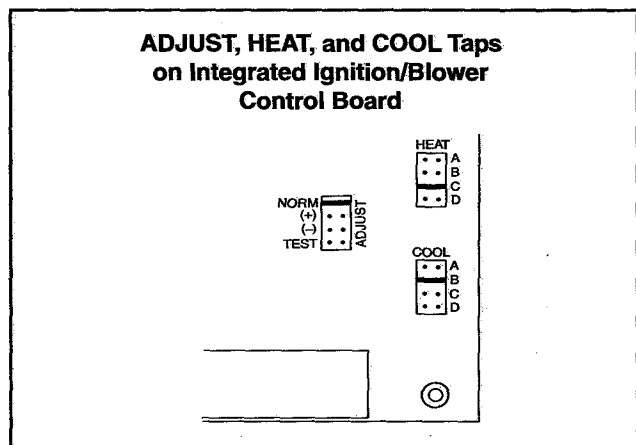

Figure 37
Refer to Figure 37 for field wiring and Figure 38 for schematic wiring diagram and troubleshooting.
7. One line voltage "EAC" 1/4" spade terminal is provided on the furnace integrated control. Any electronic air cleaner or other accessory rated up to one amp can be connected to this terminal with the neutral leg of the circuit being connected to one of the provided neutral terminals. See Figure 37 for control configuration. This terminal is energized when the indoor blower is operating.
8. One line voltage "HUM" 1/4" spade terminal is provided on the furnace integrated control. Any humidifier rated up to one amp can be connected to this terminal with the neutral leg of the circuit being connected to one of the provided neutral terminals. See Figure 37 for control configuration. This terminal is energized in the heating mode whenever the combustion air inducer is operating.
The units are factory set for the highest airflow for each model. Adjustments can be made to the cooling airflow by repositioning the jumper plug marked COOL – A, B, C, D (see Figure 37). To determine what CFM the motor is delivering at any time, count the number of times the amber LED on the control board flashes. Each flash signifies 200 CFM; count the flashes and multiply by 200 to determine the actual CFM delivered (for example: 5 flashes x 200 = 1000 CFM).
These units are factory set to run at the middle of the heating rise range as shown on the unit rating plate. If higher or lower rise is desired, reposition the jumper plug marked HEAT - A, B, C, C (see Figure 37). To determine what CFM the motor is delivering at any time, count the number of times the amber LED on the control board flashes. Each flash signifies 200 CFM; count the flashes and multiply by 200 to determine the actual CFM delivered (for example: 5 flashes x 200 = 1000).
Airflow amounts may be increased or decreased by 10% by moving the ADJUST jumper plug (see Figure 37) from the NORM position to the (+) or (-) position. Changes to the ADJUST tap will affect both cooling and heating airflows. The TEST position on the ADJUST tap is not used.